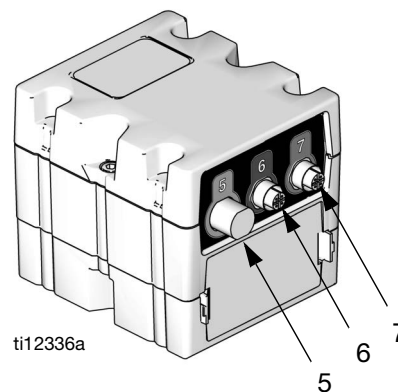

FIG. 13: Fluid Control Module Rear Connections
6. Connect cables to rear of fluid control module. See FIG. 13 and the following table.